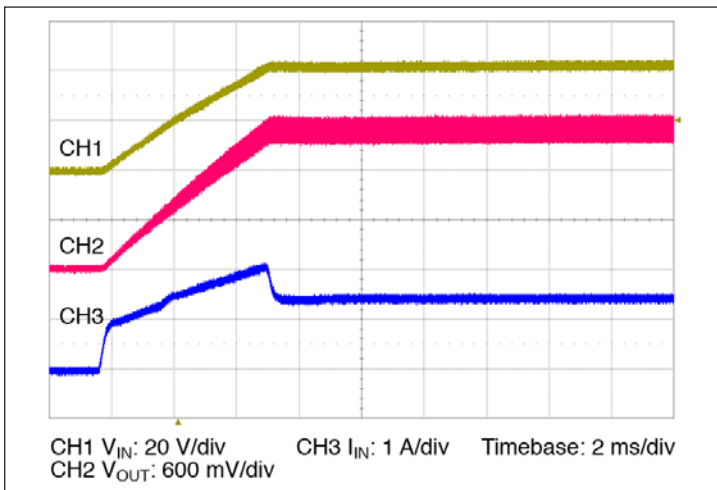

Figure 13 — Start up from application of V_{IN} ; VC pre-applied $C_{OUT} = 0 \mu F$
- **Normal Operation (VC applied prior to V_{IN}):** In this case the controller is active prior to ramping the input. When the input voltage is applied, the VTM output voltage will track the input (See Figure 13). The inrush current is determined by the input voltage rate of rise and output capacitance. If the VC voltage is removed prior to the input reaching 26 V, the VTM module may shut down.